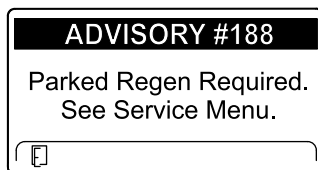

Figure 44
- Parked regeneration required ADVISORY #188 (Figure 44)